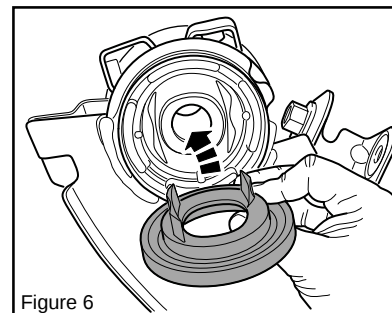
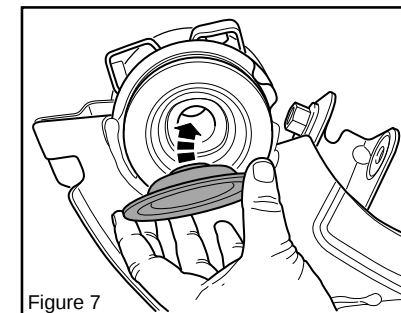

Figure 6
Figure 7
7. Install the 9169B bush into the bottom of the front lower cradle mount OE bush using a small amount of grease supplied (Figure 6 & Figure 7).